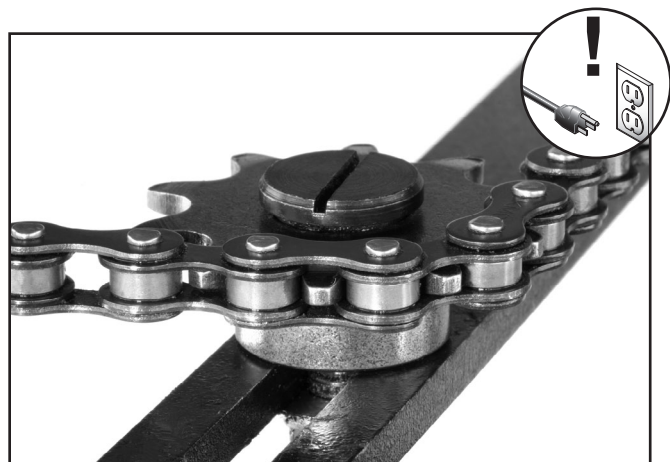

Figure 38. Idler roller sprocket.
5. Loosen the chain by loosening the hex nut on the bottom of the idler roller sprocket shown in **Figure 38**.
13. Loosen the idler roller sprocket (**Figure 38**), carefully pull the chain off of all the sprockets, and remove it from the cabinet.